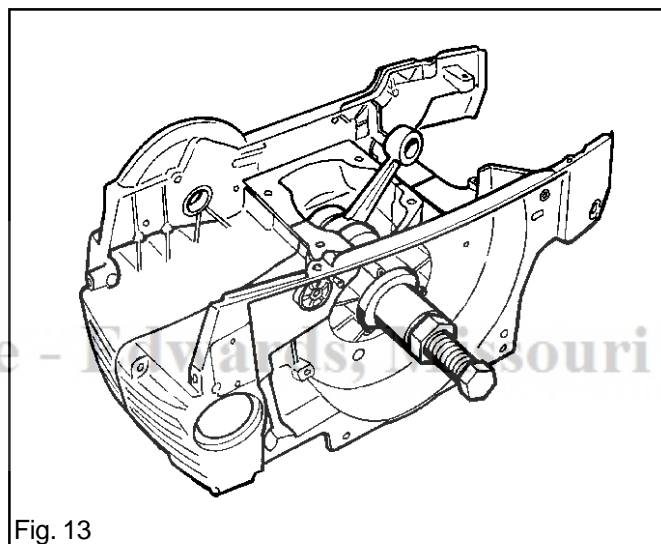

Fig. 13
- Use tool 502 50 30-17 and pull on the flywheel side's crankcase half. Pull until the gasket is clamped between the crankcase halves. See fig. 13.